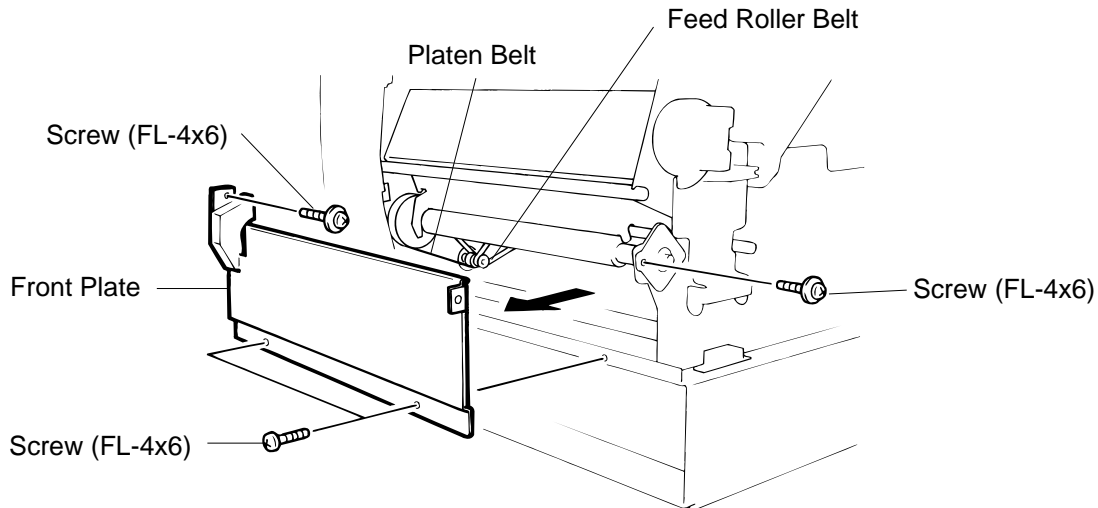

Fig. 2-5
- 1) Remove the front plate. (Refer to Fig. 2-5.)